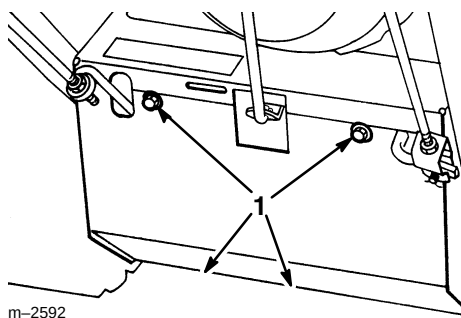

Figure 27
3. Remove the four screws that secure the bottom cover to the frame and remove the cover (Fig. 27).
4. Remove the four screws that secure the bottom cover and remove the cover (Fig. 27).